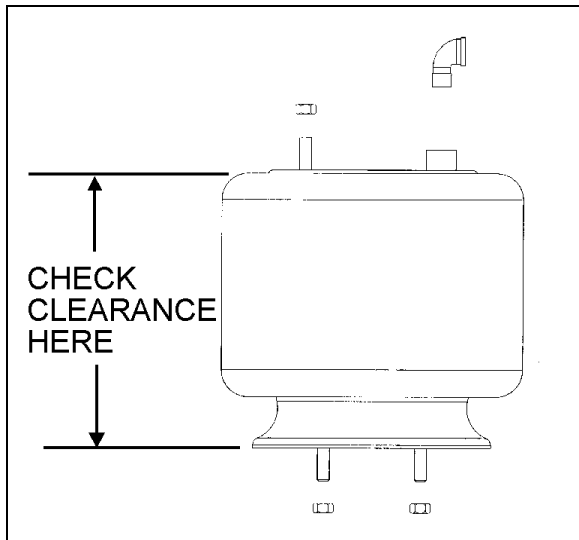

FIGURE 24: TYPICAL AIR SPRING CLEARANCE 16058
The appropriate vehicle body height is obtained by measuring the clearance of all the air springs installed on the vehicle. The two front air springs clearance should be  $11 \pm \frac{1}{4}$ " (279  $\pm$  6 mm). Refer to figure 24 to identify the correct area to take measurement. The rear air springs clearance should be  $11 \frac{1}{2} \pm \frac{1}{4}$ " (292  $\pm$  6 mm).
The measurement should be taken from underneath the upper air spring support on subframe to top of the lower air spring support on axle (refer to figure 24 for more details). If adjustment is required, begin with the drive axle.
*The measurement should be taken from underneath the upper air spring support on subframe to top of the lower air spring support on axle (refer to figure 24 for more details).*